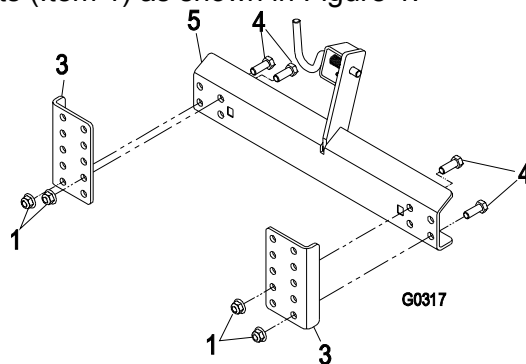

FIGURE 1
1. Locate pull frame (Item 5) and (2) mount brackets (Item 3). Install the pull frame to the mount brackets using (4) 3/8-16 x 1 1/4 Hex capscrews (Item 4) and (4) 3/8-16 nyloc nuts (Item 1) as shown in Figure 1.